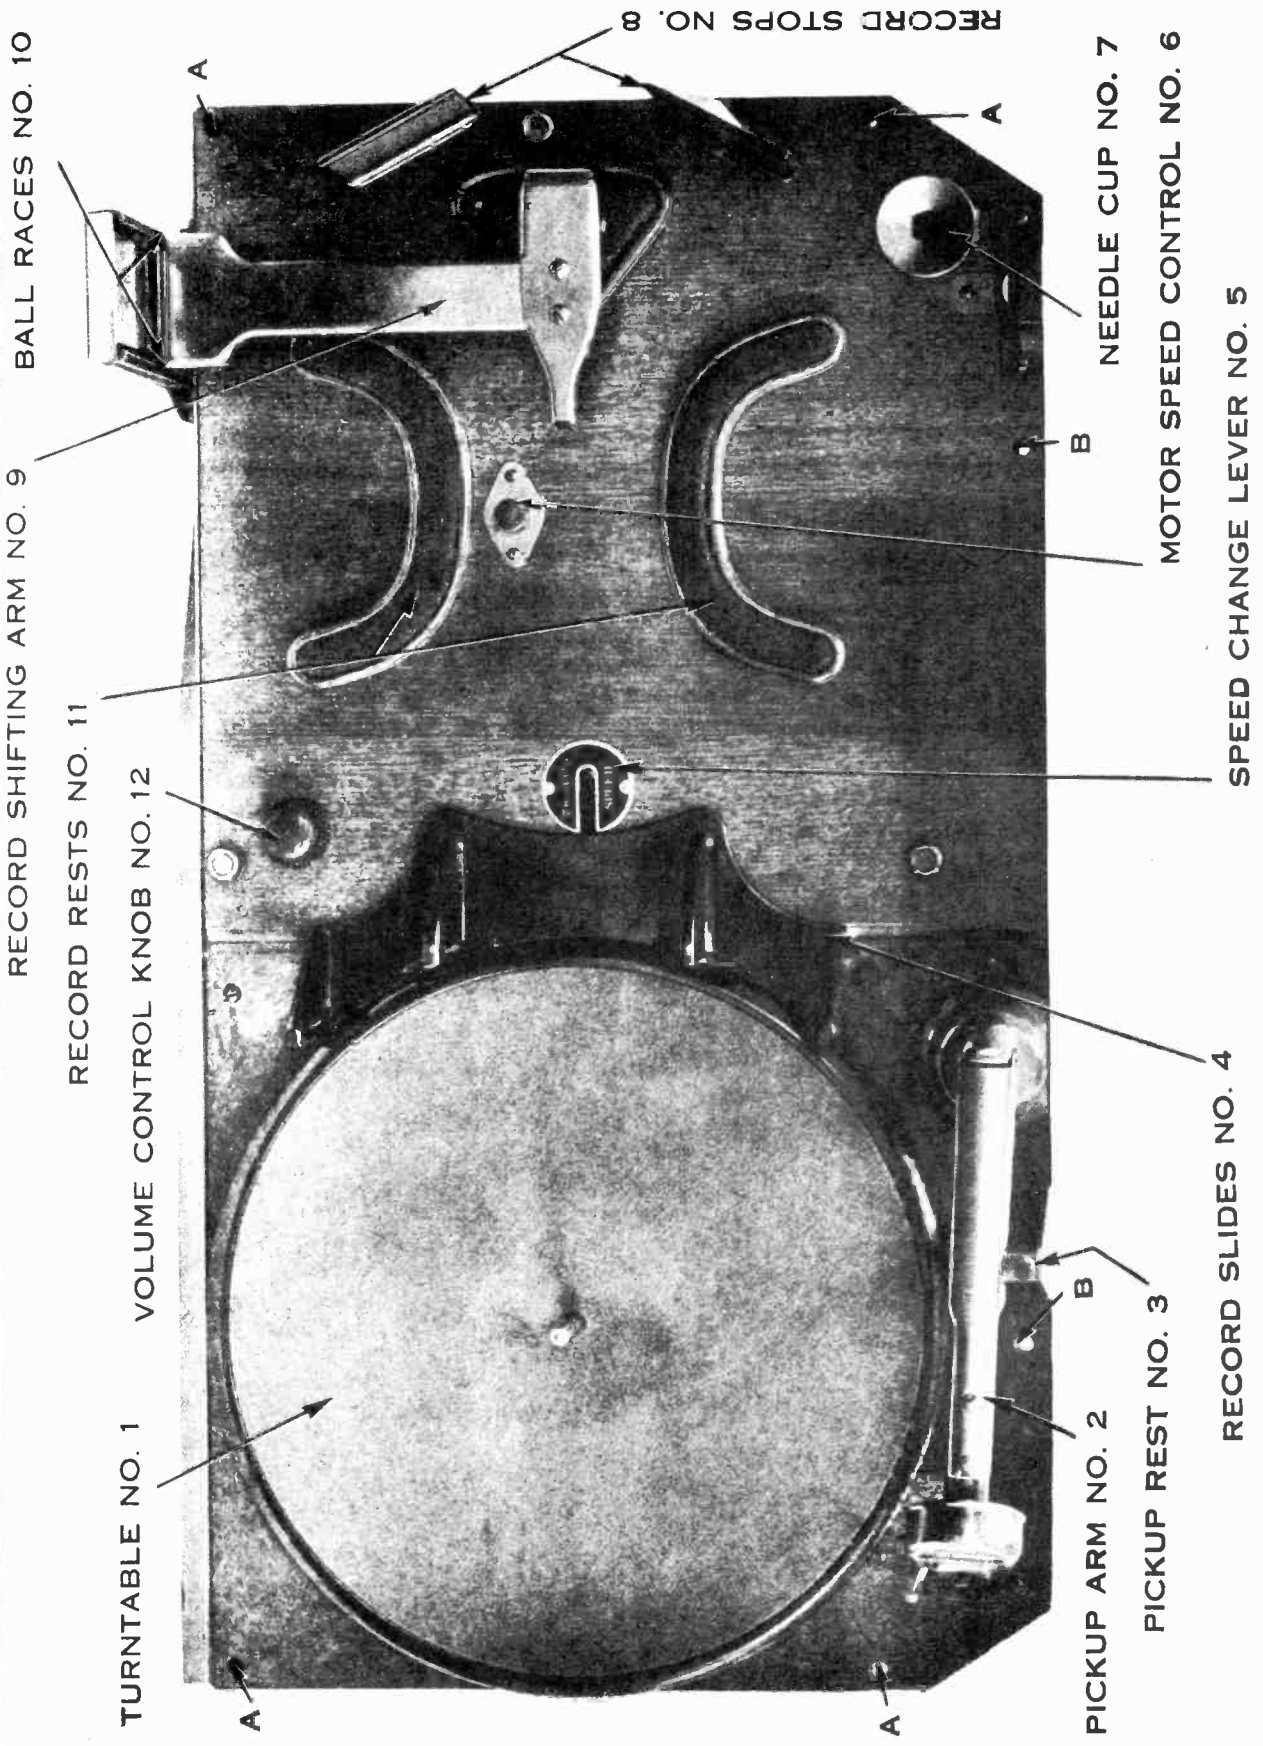
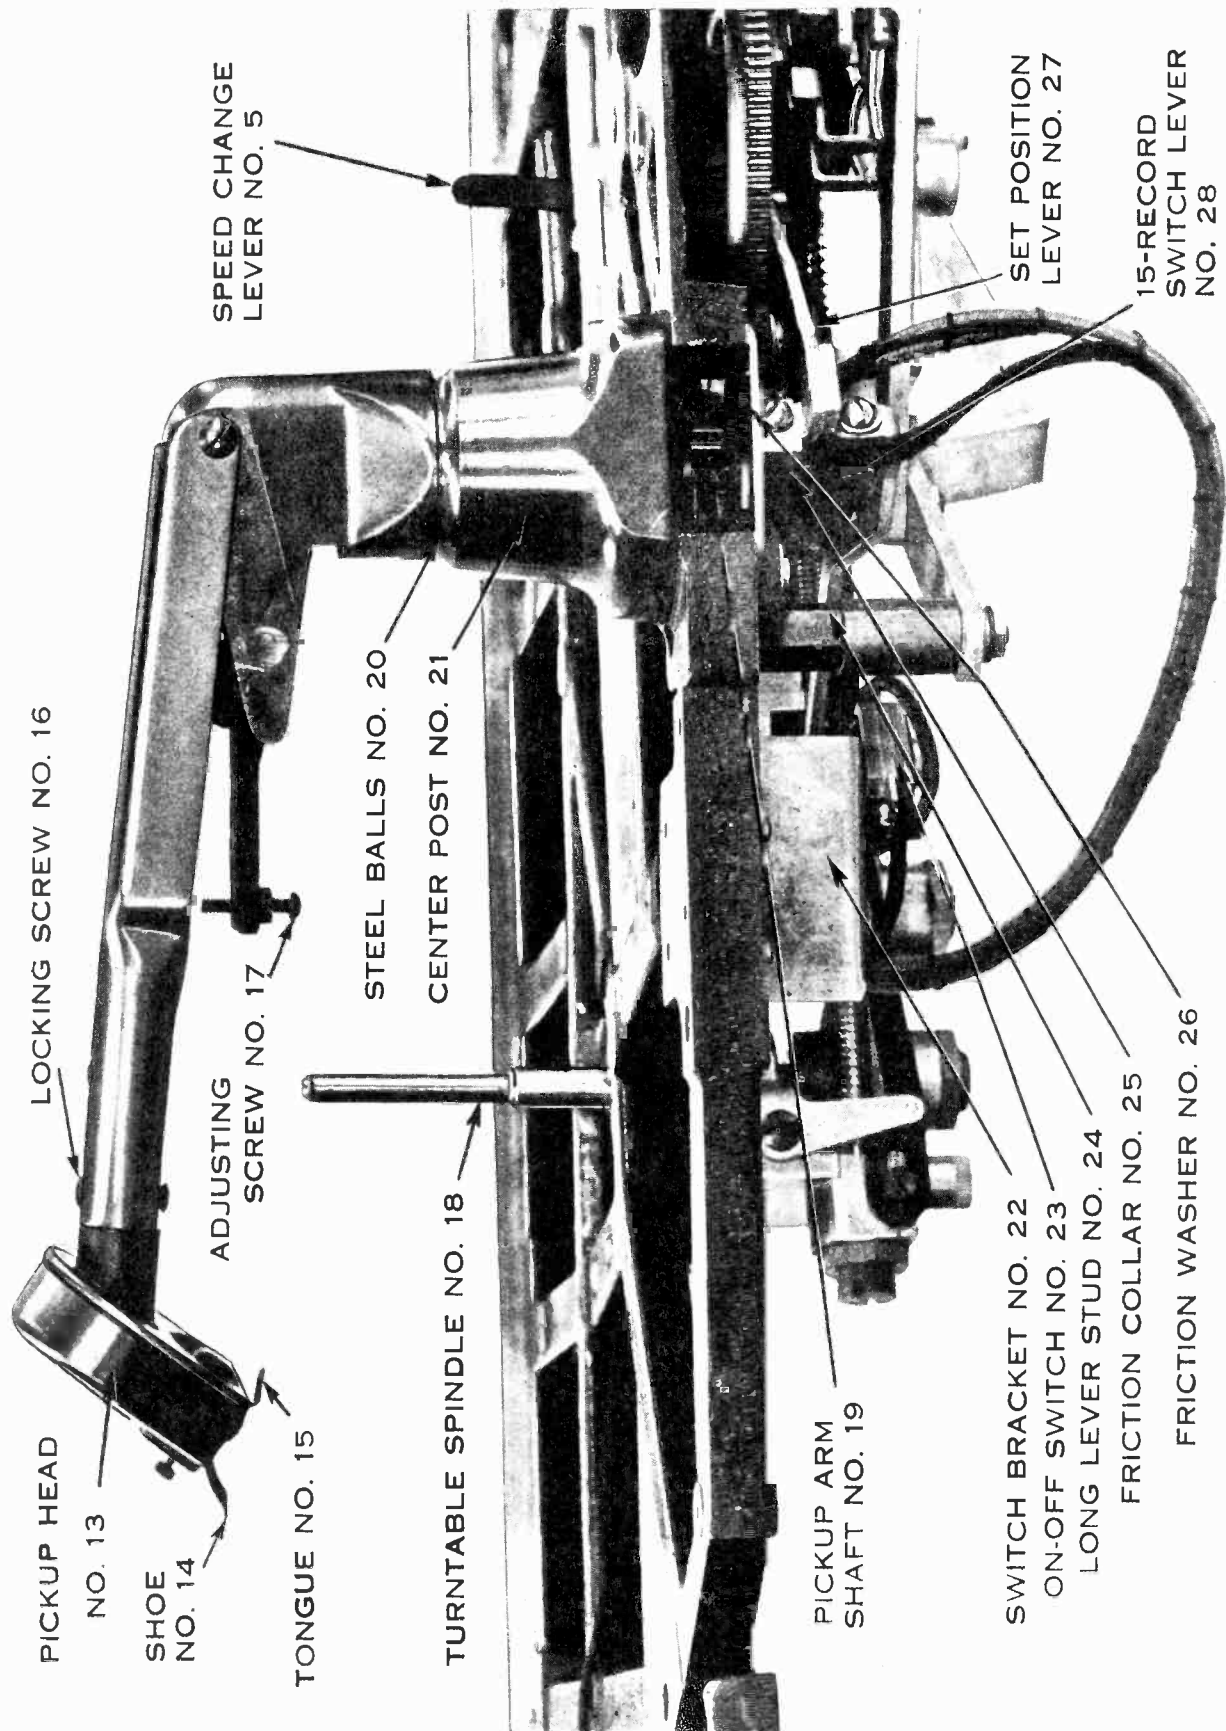

Fig. 1
Fig. 2
- (b) Remove the six phonograph chassis mounting screws, located at points marked "A" and "B", Fig. 1.
- (h) Rest the No. 2 Phonograph Chassis on blocks of wood about 7 inches high, located at both ends, put on a level bench or table, so as to give accessibility to working parts. A more satisfactory mounting for servicing is comprised of four metal legs (Stromberg-Carlson SK-3169) designed to be inserted into the four chassis screw mounting holes marked "A", Fig. 1. It will be necessary to push out the rubber bushings that are in these four holes to allow these metal legs to be inserted in the metal frame of the chassis.
- (b) Height of turntable spindle No. 18, Fig. 2, is incorrect. Test height. It should be about $\frac{3}{8}$ inch lower than the record slides No. 4, Fig. 1.
- (a) Pickup Head No. 13, Fig. 2, is too high or too low.
- (b) Record is not resting properly on tongue No. 15, Fig. 2, of pickup head No. 13, Fig. 2.
- (c) Pickup shoe No. 14, Fig. 2, too low, not allowing record to pass underneath, or too high allowing record to tilt too much. In this latter case the center hole in record will drop away from the transfer finger No. 52, Fig. 5.
If the record does not pass over turntable spindle No. 18, Fig. 2, and slides over tongue No. 15, Fig. 2, and under shoe No. 14, Fig. 2, adjust by means of screw No. 17, Fig. 2. The pickup head should be adjusted so that record will pass under its outer edge without striking.
- (a) Locking Screw No. 16, Fig. 2, in top of pickup head is loose or missing. Tighten.
- (b) Record does not rest on tongue No. 15, Fig. 2.
- (c) Set Position Lever No. 27, Fig. 2, has been bent.
- (a) Pickup Arm No. 2, Fig. 1, is binding.
Test to be sure pickup arm is not binding. There should be a slight up-and-down play on balls No. 20, Fig. 2, of center post No. 21, Fig. 2. This play can be obtained by adjusting the friction collar No. 25, Fig. 2.
Set this collar so that pawl tip just clears top of threads after pickup arm has been brought to outside of record or to the Pickup rest No. 3, Fig. 1. Move arm out slowly when setting.
- (a) The On-Off Switch No. 23, Fig. 2, is loose in switch bracket No. 22, Fig. 2, or the switch bracket is loose on the chassis.
Bend lug of switch lever No. 28, Fig. 2, for making adjustments. Be sure needle is protruding proper distance from pickup head before making test. See if the records are the thin type.
Adjust height of switch lever No. 28, Fig. 2, and see Section 15.